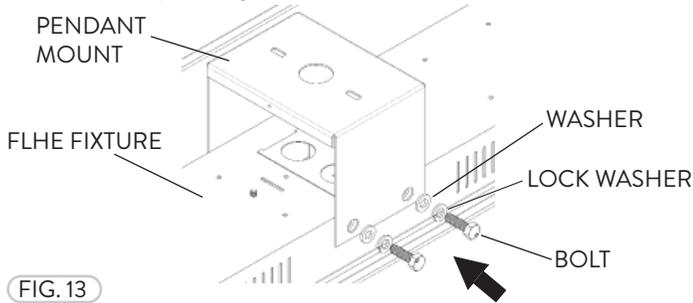

FIG. 13
- 1 Fasten the Pendant Mount to the top-center of the FLHE fixture using the Bolts, Washers, and Lock Washers to screw the Pendant Mount into place (Fig. 13).